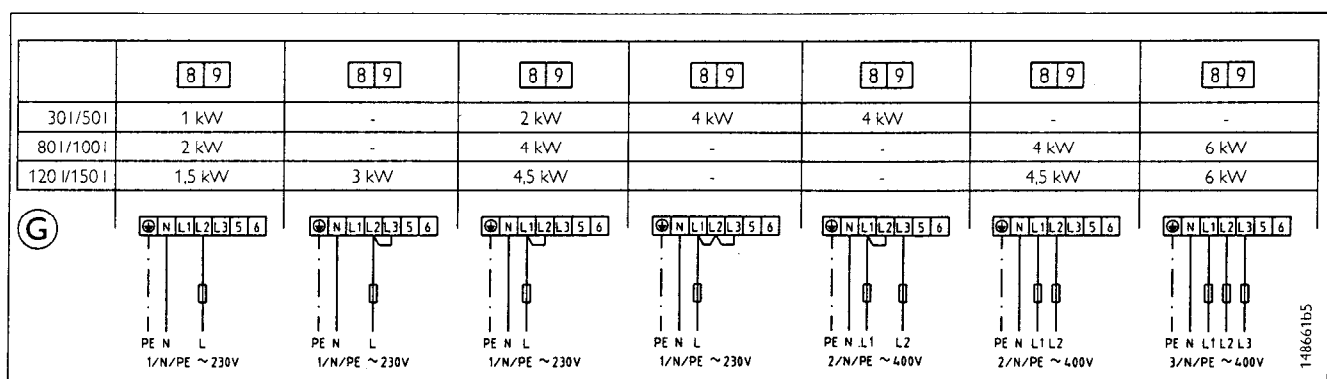

Abb. 20/ Fig. 20/ Afb. 20
© Boilerbetrieb, Abb. 20
- © Single-shot mode, Fig. 20
- © Mode accumulation, fig. 20
- © Boiler-functie, afb. 20